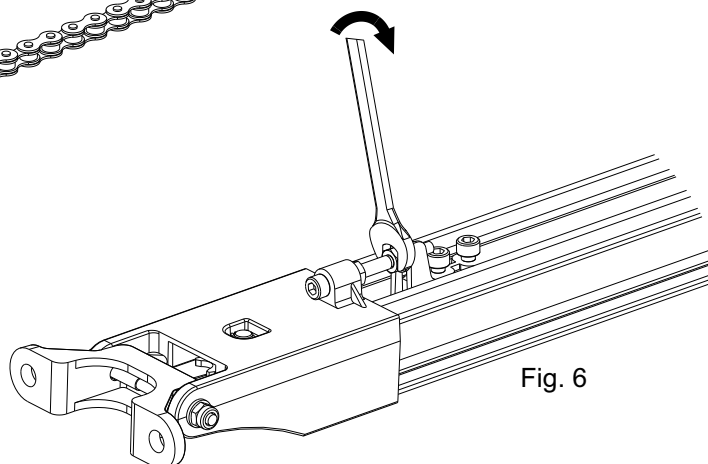

Fig. 6
- Tighten the chain lightly acting with a 10-key as in Fig.6